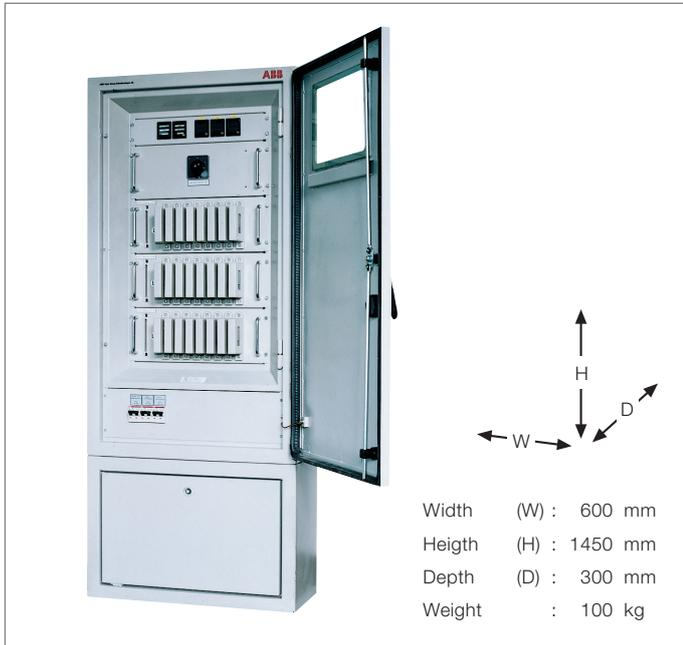

Figure 3: Measuring and tripping device
The pulse transformer transmits the tripping pulse from the tripping device (Figure 3) to the charge 10 in the I_S-limiter insert, and at the same time ensures electrical isolation of the tripping device from the charge which is at system potential.
The measuring and tripping device is accommodated in a sheet steel control cabinet (Figure 3) or in the low voltage compartment of the I_s -limiter panel.
- one measuring and tripping device (Figure 3).
The measuring and tripping device is mounted in the low voltage compartment. The I_s-limiter (fixed mounted) for 36 kV/40.5 kV is available in a metal-enclosed switchgear panel. Same as for loose equipment supply, the measuring and tripping device is installed in a separate sheet steel cabinet (Figure 3).